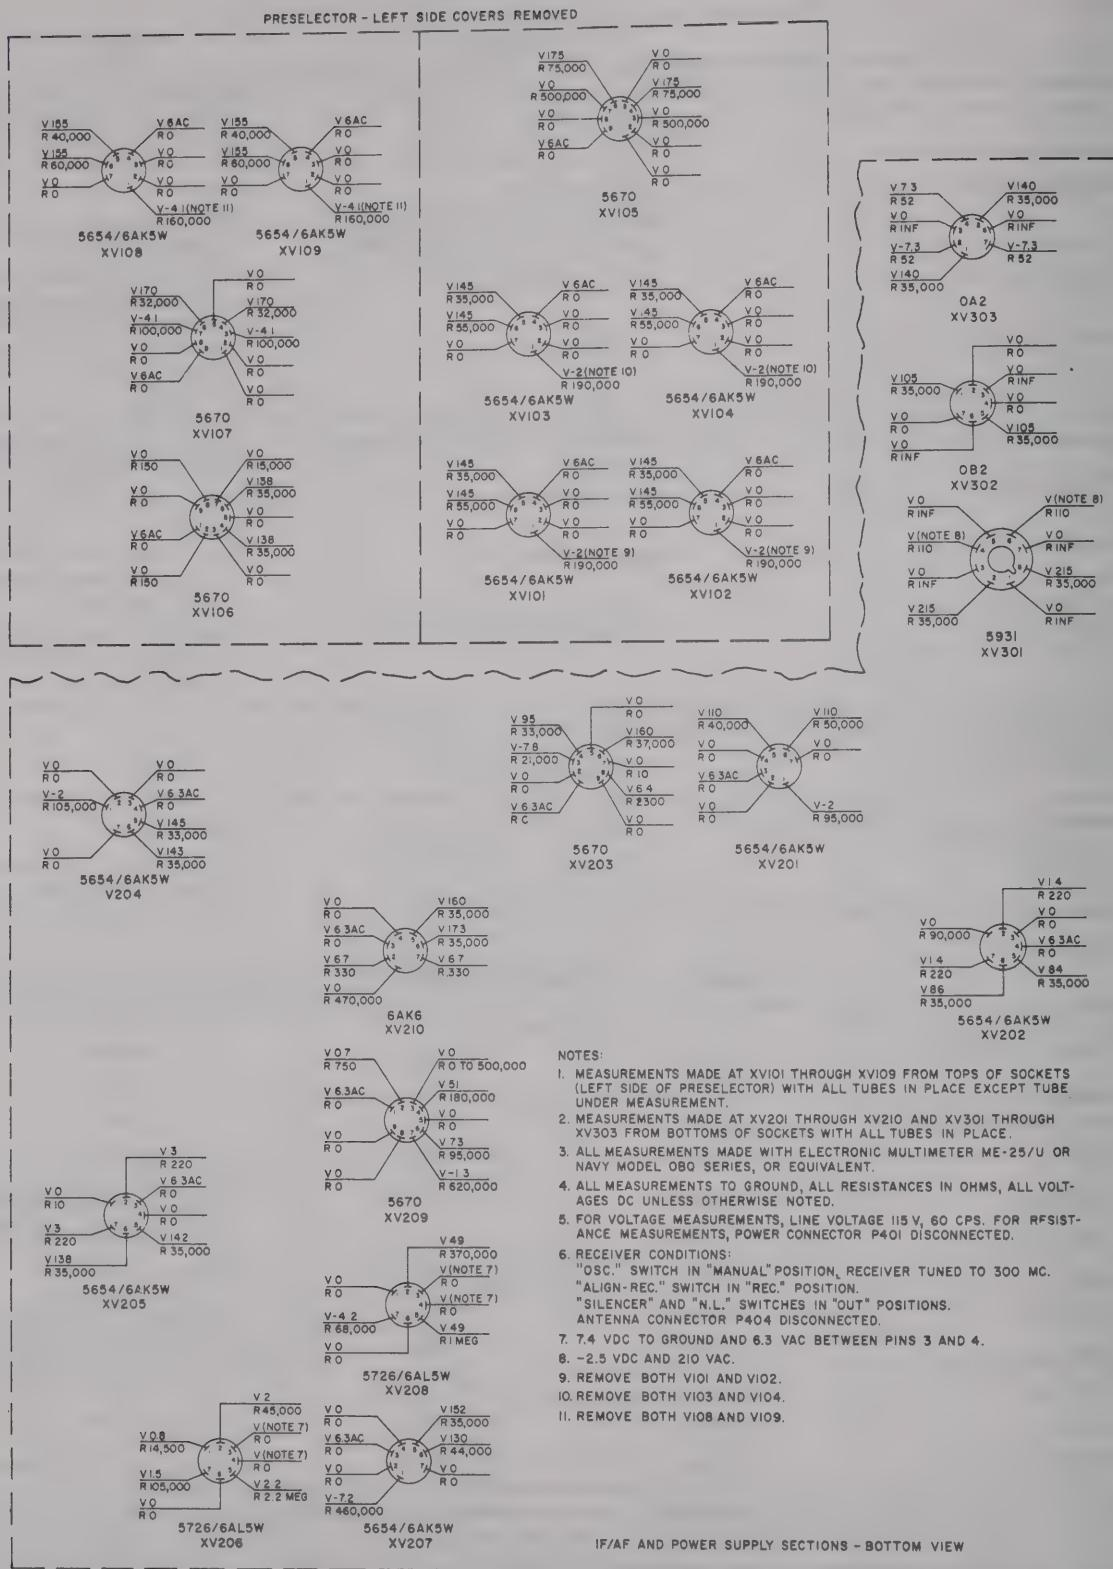
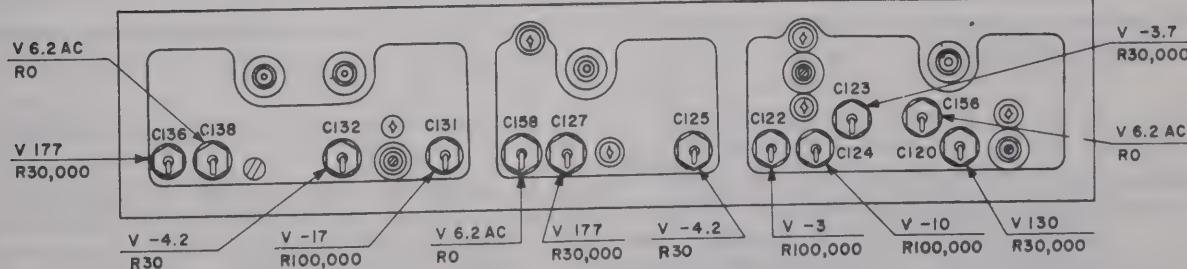

Figure 7-1. Tube Socket Voltage and Resistance Measurements
Figure 7-2. Preselector Voltage and Resistance Measurements
c. VOLTAGE AND RESISTANCE MEASUREMENTS.—The values of voltage and resistance between the pin of each tube socket and ground for the IF/AF and power supply sections are indicated in figure 7-1. Similar readings at the tube sockets of the preselector are also included in figure 7-1. Because of the physical arrangement of the preselector in the receiver, these measurements must be made from the top of each preselector tube socket after removing the tube from the socket at which the measurements are to be made. Unless otherwise specified in figure 7-1, all other tubes should remain in place. Since tube-socket voltages obtained in that manner are not indicative of operating conditions, the actual operating voltages (and resistances) at other pertinent test points accessible on the preselector assembly are shown in figure 7-2. Similar values, measured at test jacks and from terminal-board terminals to ground and/or other significant points, are given in table 7-3.
The values specified in figures 7-1 and 7-2, and in table 7-3, were obtained by using an electronic multimeter such as Multimeter ME-25/U series, Vacuum Tube Volt-Ohm-Milliammeter Navy Model OBQ series, or equivalent. The conditions under which voltage and resistance measurements were made are as follows: 115-volt, 60-cps line voltage; receiver tuned to 300 megacycles; ALIGN-REC. switch in REC. position; SILENCER switch in OUT position and N.L. switch in OUT position. Resistance measurements were made